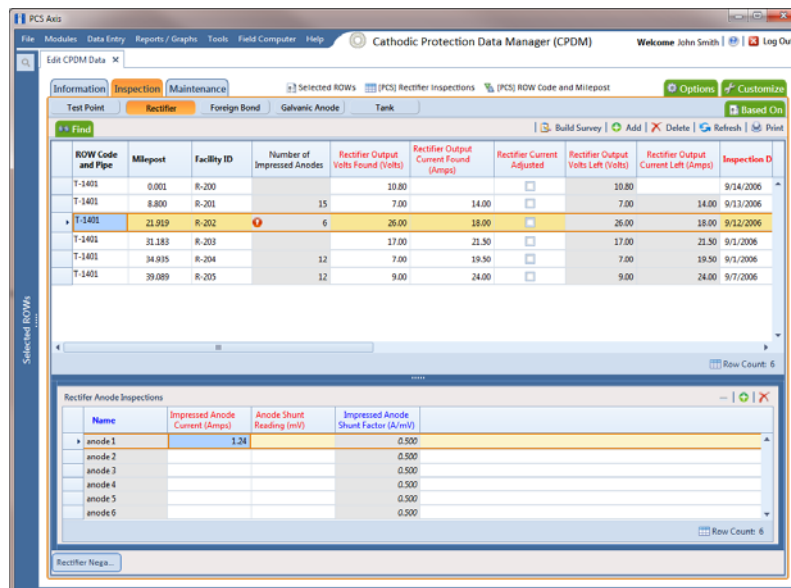

Figure 7-112. Rectifier Anode Inspections
- 5 Select a row of records in the *Rectifier Inspection* grid with the rectifier and anodes you want to add anode inspection readings. For example, the record for pipeline segment T-1401 with rectifier R-202 is selected in Figure 7-112 (page 344).
- 9 Click  **Refresh** to update  derived fields, such as *Number of Impressed Anodes* shown in Figure 7-112 (page 344).